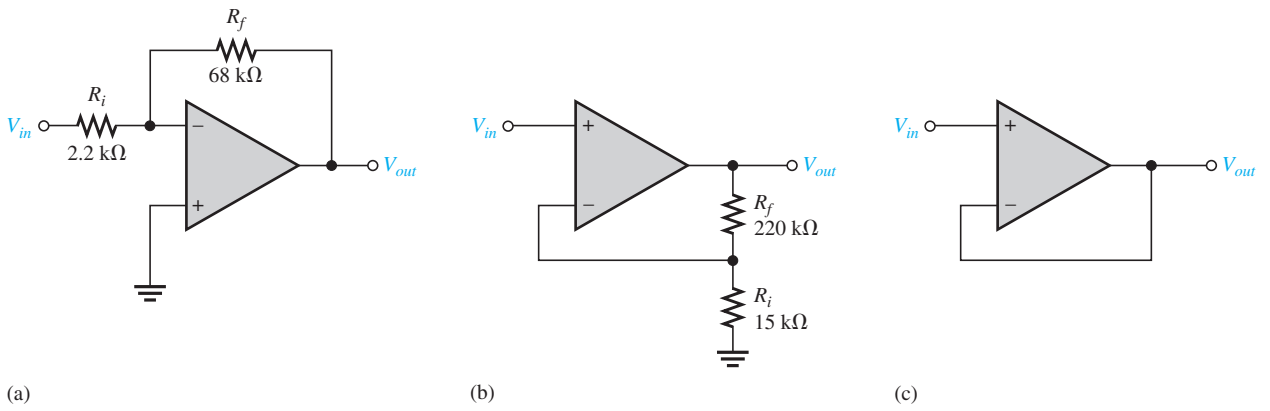

FIGURE 7-27
- Determine the midrange gain in dB of each amplifier in Figure 7-27. Are these open-loop or closed-loop gains?